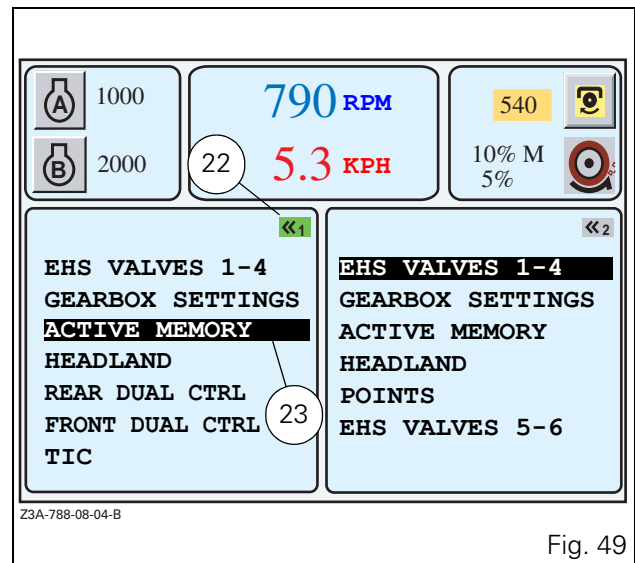

Fig. 49
ACTIVE MEMORY menu displayed in the left-hand window, for example (Fig. 49):
- To display this menu, press key <<1 twice. The first press selects the window and the second press displays the list if no application was activated previously. The active window is indicated by the green icon at the top right-hand of the window (22 Fig. 49), and on b/w screens the active window is indicated by the same icon in reverse video.
- To select the ACTIVE MEMORY menu, select the application using the encoder. The selected application is displayed in a black frame (23 Fig. 49).